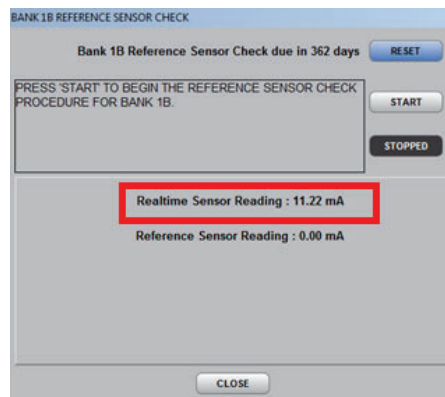
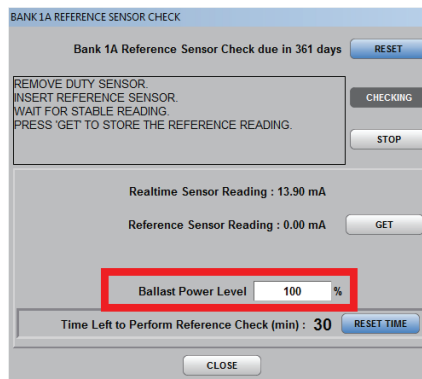

Figure 1 Realtime Sensor Reading
Figure 3 Reference Sensor - Ballast Power Level
2. If the Realtime Sensor Reading (Figure 1) is greater than 19mA, and the UV bank mode is in Local ON, change the UV bank mode to Remote ON or Remote Auto.
- If the Realtime Sensor Reading (Figure 1) is greater than 19mA, reduce power in 10% increments (Figure 3) until the reading is equal to or lower than 19mA.